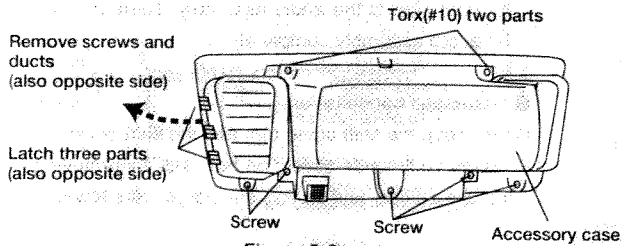

Figure 5-3
3. Remove the center pocket and discard, also remove clock and ducts from the air vent grille. (Figure 5-3)